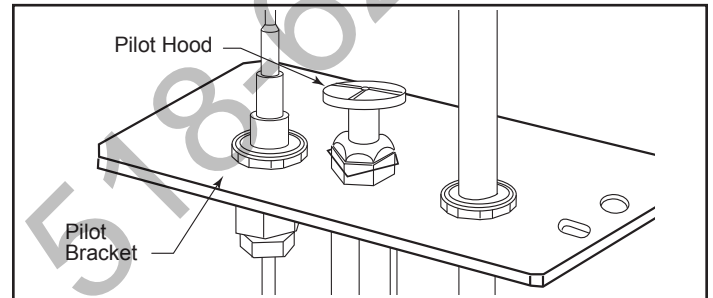

Figure 10 - Remove pilot hood.
3. Remove pilot hood by lifting up. (Figure 10) Do not remove the snap ring to remove the pilot hood. **NOTE:** It is not necessary to remove the pilot tube for conversion.